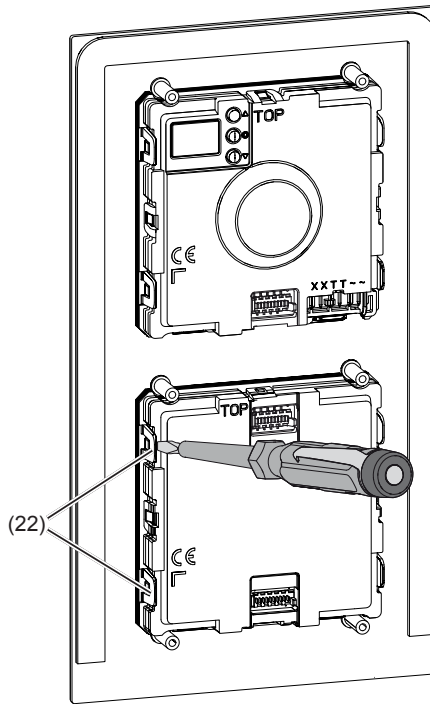

Figure 17: Unlatching module
- (20) Screws
- (21) Module mounting
- Unlatch retaining brackets (22) of each module by carefully lifting up with a screwdriver (Figure 17).
- To remove the call push-button module, unlatch the side retaining brackets (22) of the module mounting by carefully lifting up with a screwdriver (Figure 17).